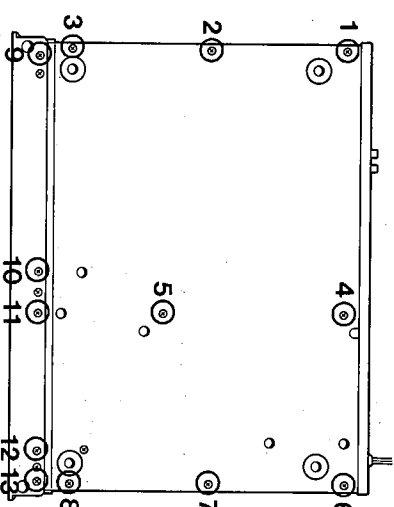

Fig. 2
Remove screws ① through ⑧ in fig. 2 and then remove the bottom cover.
f. Remove screws ⑨ through ⑬ (binding screws only) in fig. 2 and screws ⑤ through ⑧ (binding screws only) in fig. 3, and then pull the front panel forward gently.